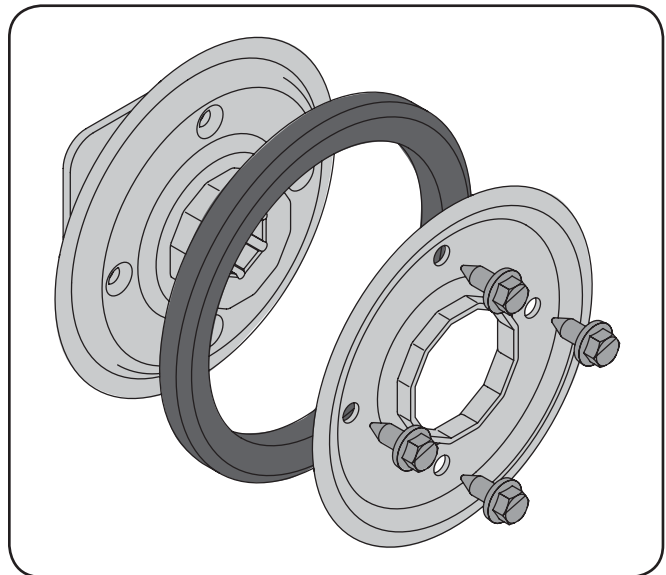

Fig. 7-11
1. Remove the four screws which secure the friction wheel's side plates together. See Fig. 7-11.